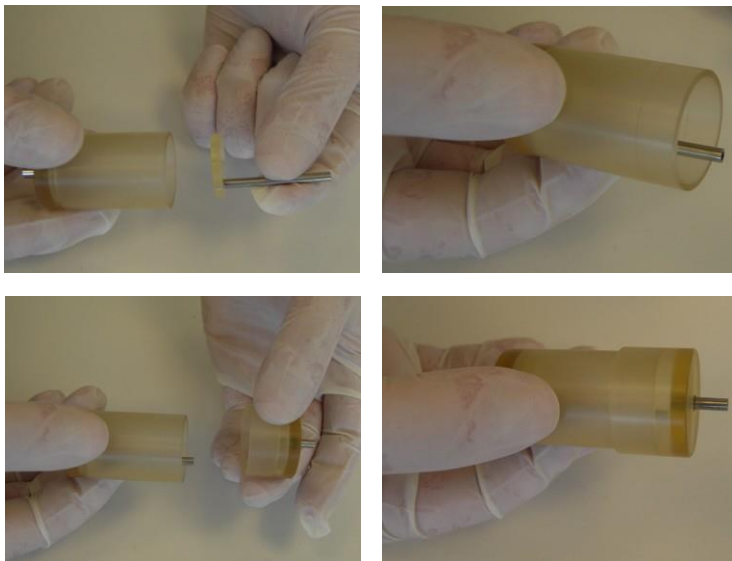

Figure 3-54. Assembling the Graft Collector
10. Assemble the graft collector, as shown in Figure 3-54.